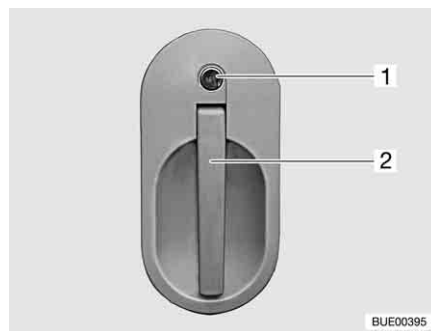

Fig. 37 Door lock of driver's door, outside
- Insert the key into locking cylinder (Fig. 37,1) and turn until the door lock is unlatched.
- Pull on the handle (Fig. 37,2). The door is open.
- Insert the key into locking cylinder (Fig. 37,1) and turn until the door lock is engaged.